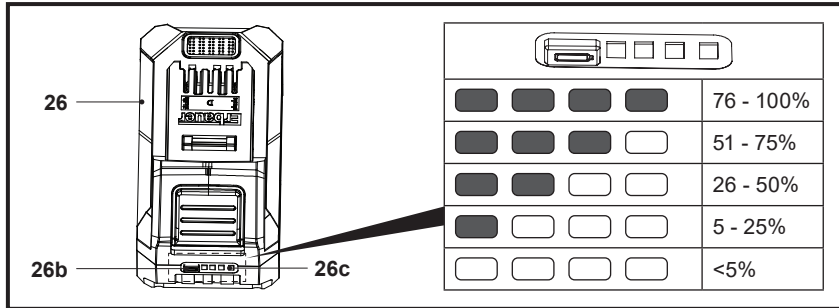

Fig. 9
The battery pack (26) is equipped with battery capacity indicators (26c) which are used to give an indication of the battery pack's remaining capacity. Press the battery capacity button (26b) to check battery capacity (Fig. 9). The LEDs will stay lit for approximately 3 seconds.